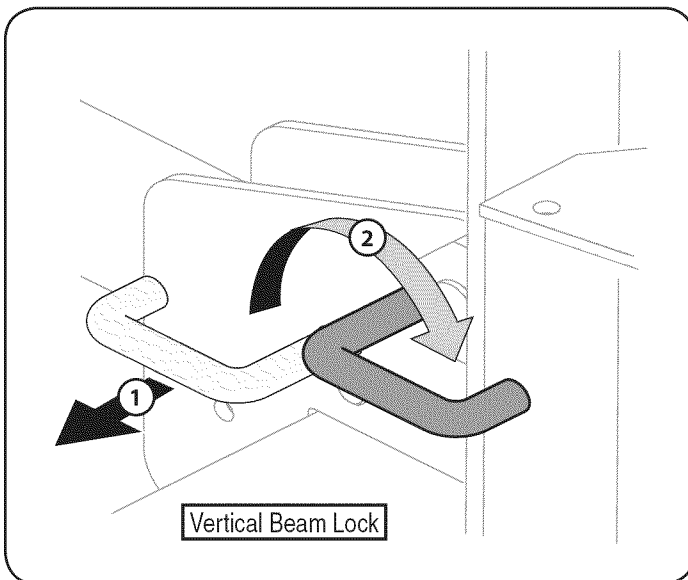

Figure 11
2. To lock the beam in the vertical position, pull out on the vertical beam lock and rotate it to secure the beam. See Figure 11.